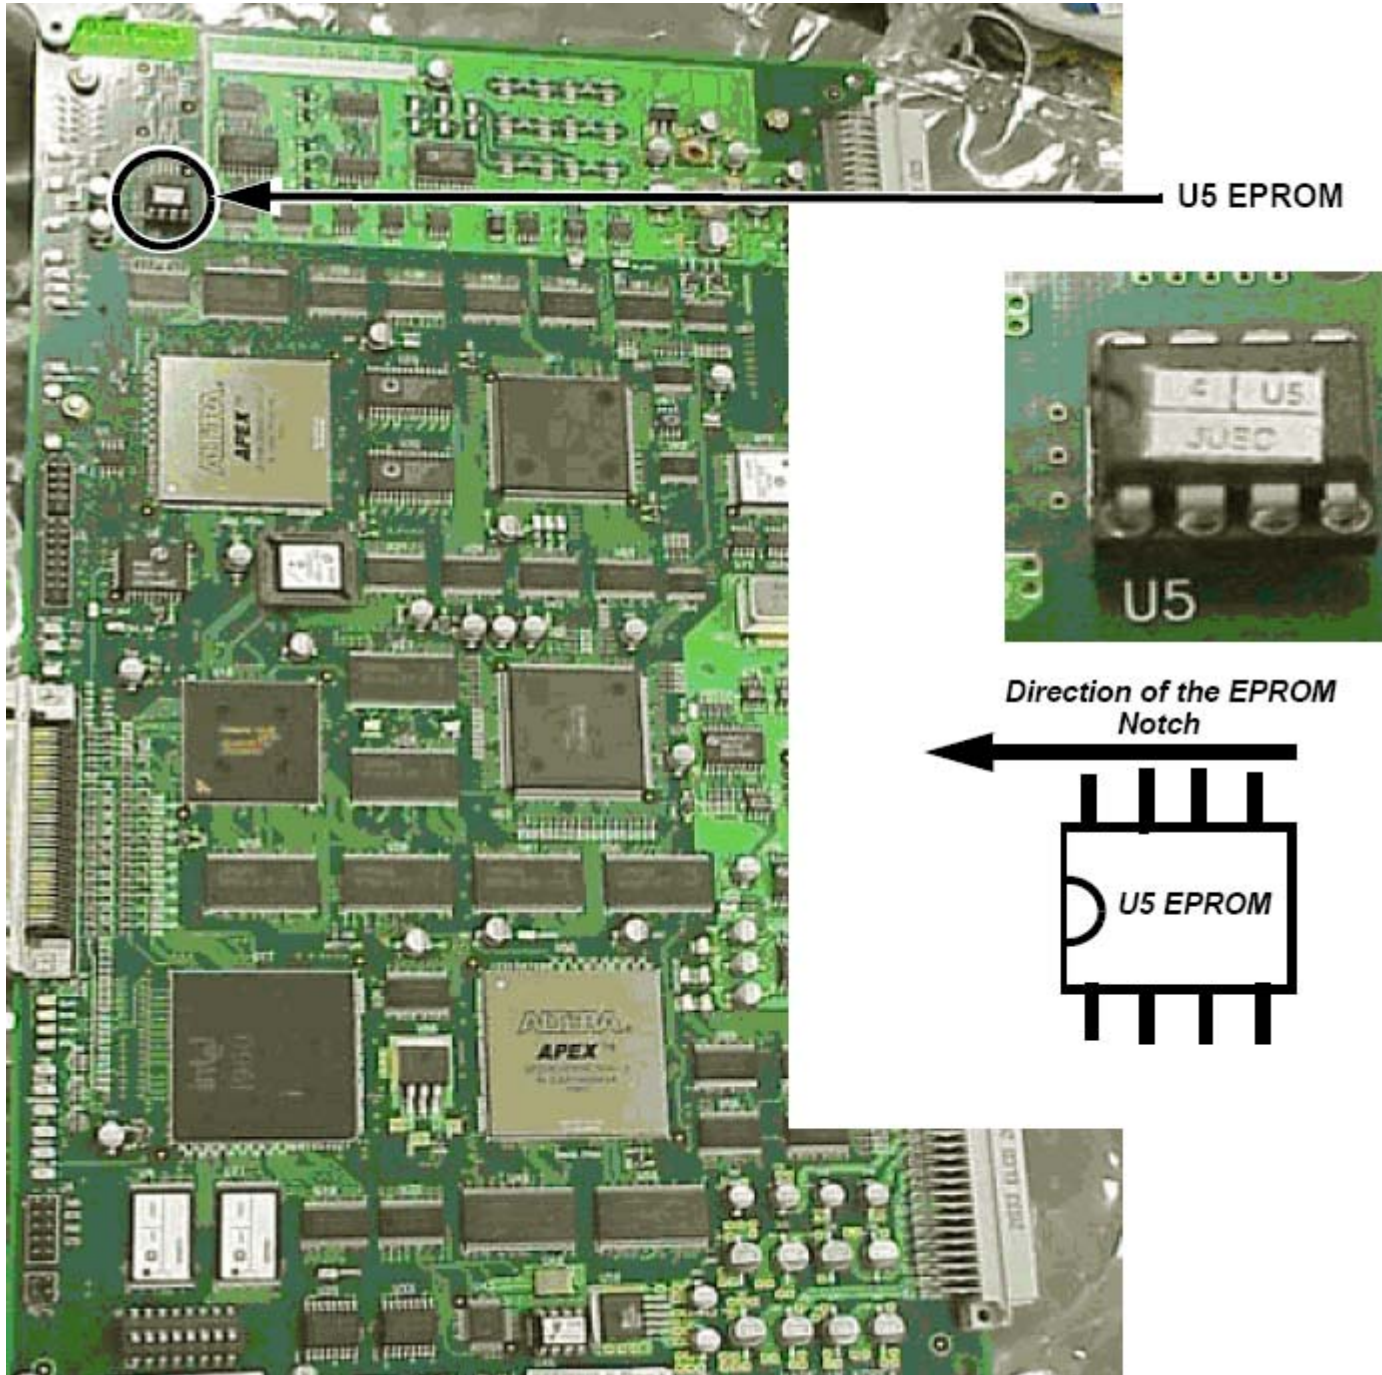

Figure 7-33 Location and Orientation of the U5 EPROM
- 1.) Locate the U5 EPROM on the FEC Board as shown in Figure 7-33 on page 66 .
- 2.) Replace These EPROMs With the Latest Version of the EPROM, Rev4. The New version of the EPROM is shown in Figure 7-33 on page 66 above